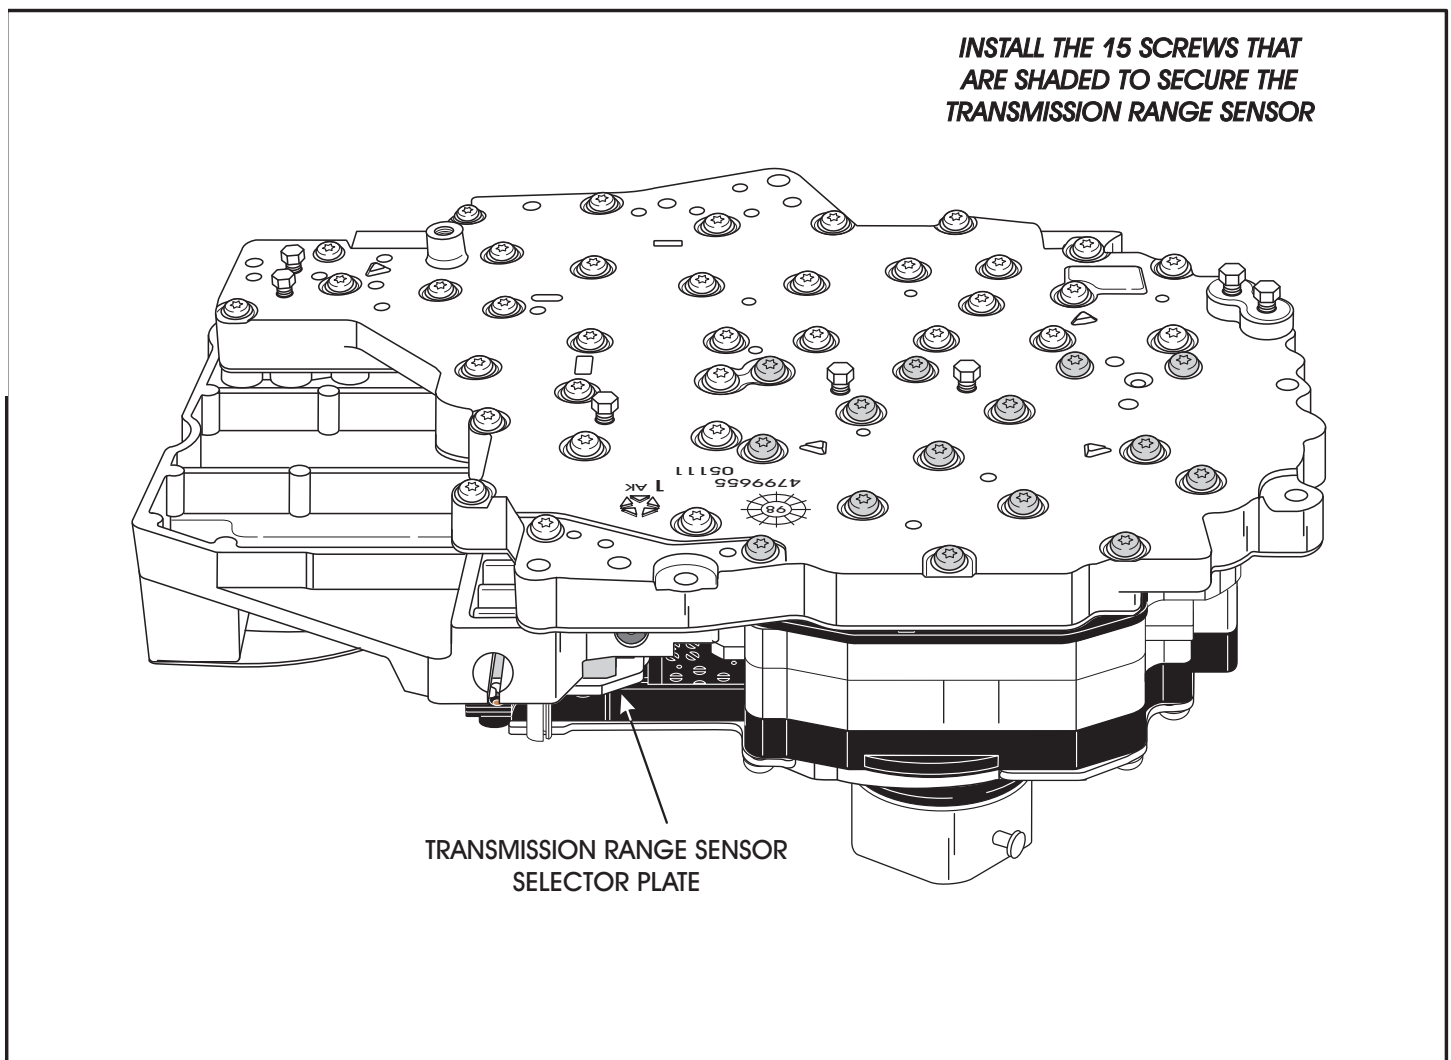

Figure 135
27. Install the TRS/Solenoid Body onto the transfer plate using the remaining 14 valve body screws as shown in Figure 135.
*Note: Tighten the screws nearest the range sensor selector plate first, and work toward the other end. Refer to Figure 135.*